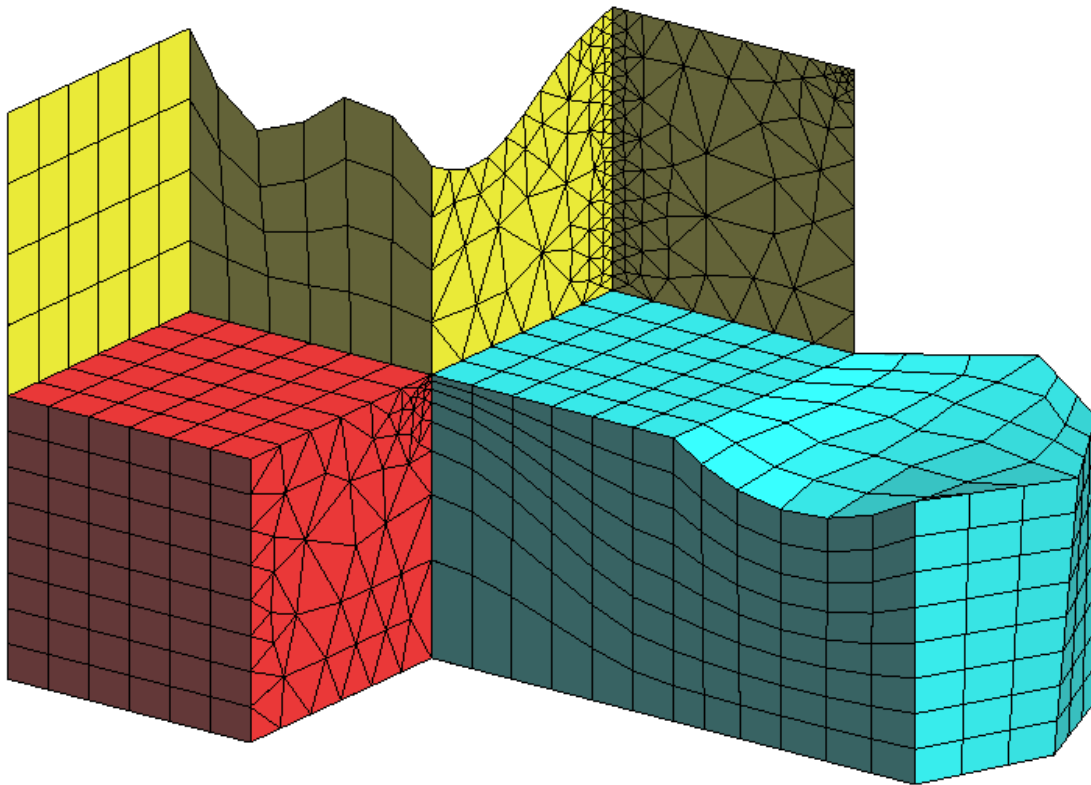

Figure 14. Unstructured size assigned in a point and a line.
- 24 . Another window appears in which the maximum element size should be entered. Leave the default value unaltered and click **OK**. The result is the mesh shown in Figure 14.